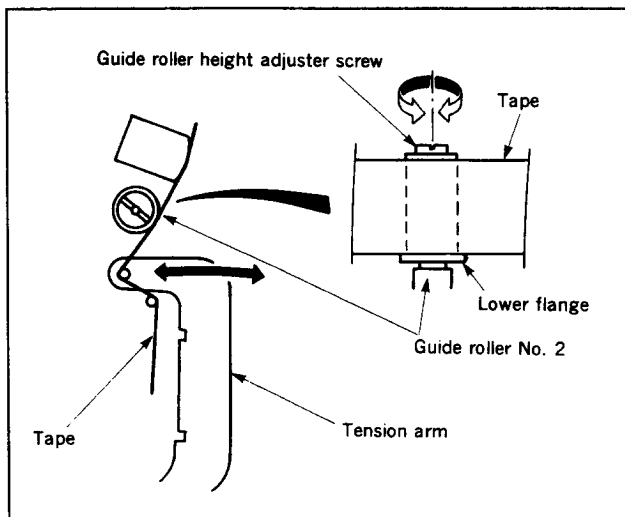

Fig. 4-2.
**4-1-2. Height adjustment of the guide roller No. 2 (Fig. 4-2)**